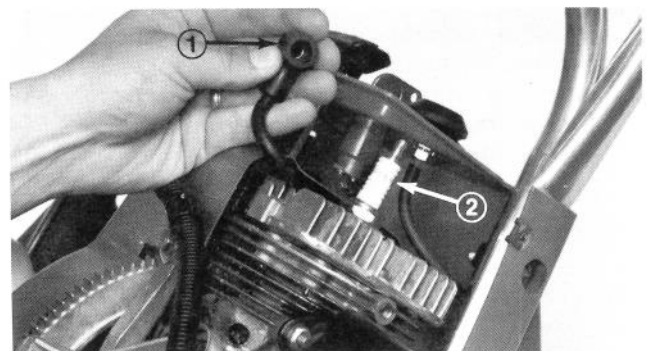

Figure 20
5. Pull high tension wire off spark plug and remove plug from cylinder head (Fig. 20).
7. Push high tension wire onto spark plug (Fig. 20).